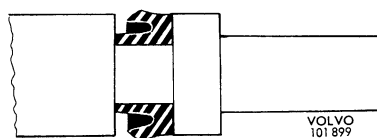

Fig. 5-60. Piston seal
4. Inspect the parts. If the cylinder surfaces are scratched or damaged by rust, the valve should be replaced complete. However, if the cylinder surfaces are not damaged, replace only the piston complete. When doing so, check that the seal is facing in the direction shown in the Fig. 5-60.
5. Fit the piston (21) complete after having coated it with a brake fluid or a light layer of brake paste. Screw in the plug (1) together with the sealing ring (2). The tightening torque is 10—12 kpm (70—85 lb.ft.).